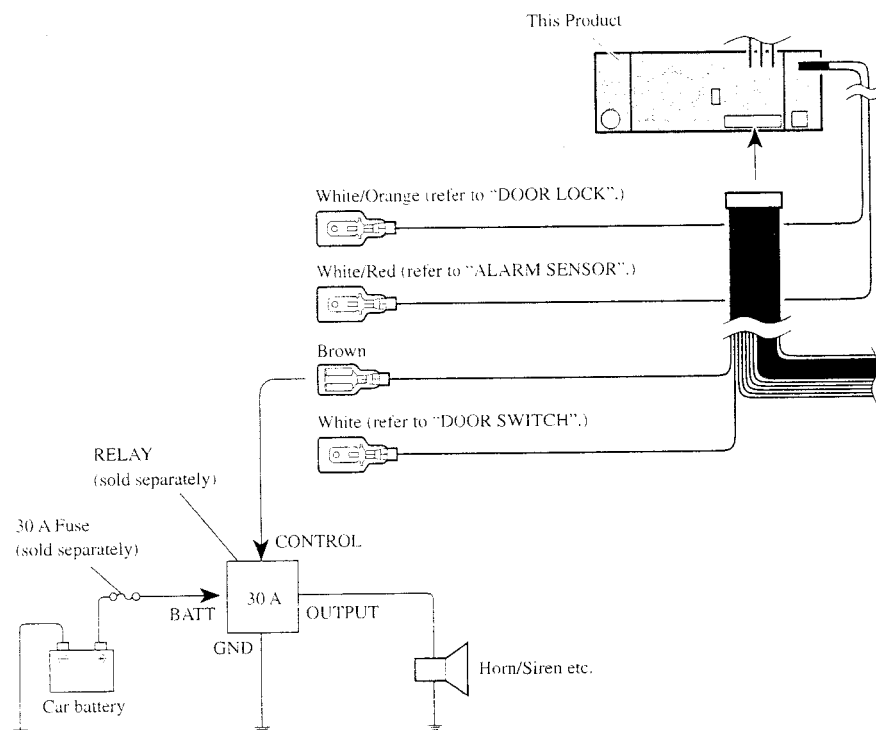

Fig. 5
- Brown (ALARM OUTPUT)** (Fig. 5)